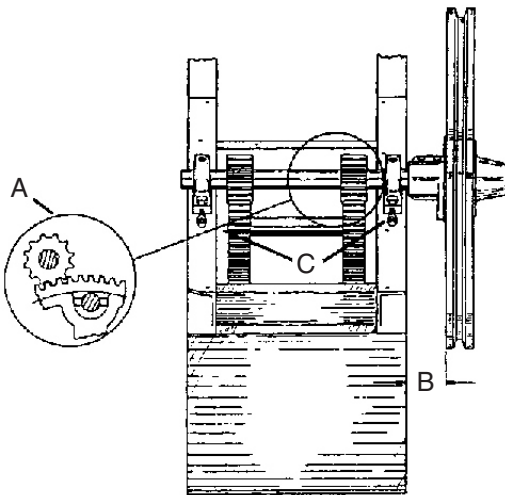

Figure 127. Pinion Gears
The flywheel (see Figure 127) should be parallel to the frame plus or minus 1/8", with pinions meshing evenly with the bullgear teeth (A).